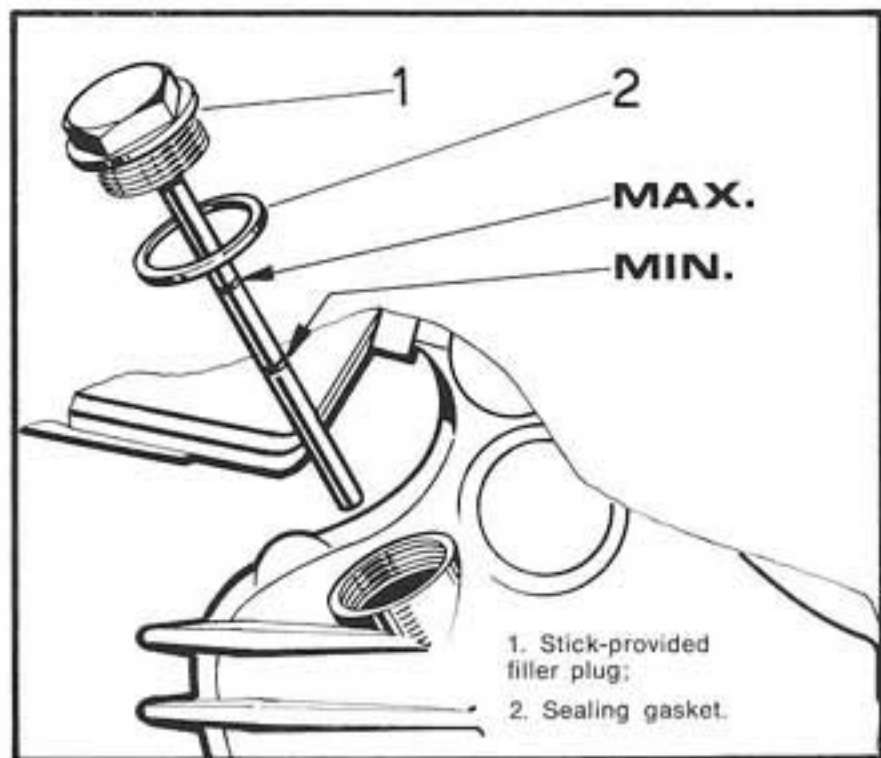

Fig. 5
- 3) Extract the stick and verify the oil level which must be within the « Min. » and « Max. » notches (see Fig. 5).